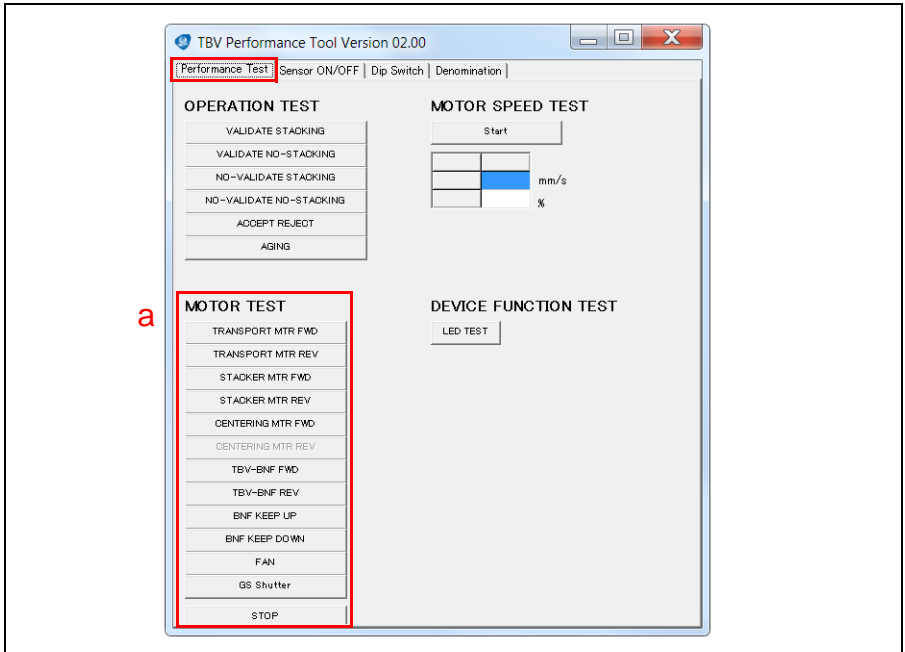

Figure 11 TBV Performance Tool - Motor Test Options
1. In the MOTOR TEST Section, click the desired Test Screen Button (Figure 11 a) to begin the test (e.g., TRANSPORT MTR FWD).